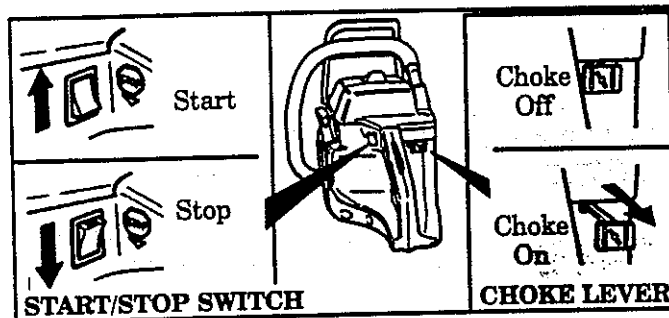

Figure 14
- b. Move Start/Stop switch to the "Start" position. Figure 14.
- c. Move choke lever to "ON" position. Figure 14.
**NOTE:** Stop the engine by moving the start/stop switch to the "Stop" position. Figure 14.
- f. Move choke lever to "OFF" position. Figure 14.
- 2.) Move the choke lever to the "On" position. Figure 14.
- 6.) Allow the engine to run for about 5 seconds. Then, move the choke lever to the "Off" position. Figure 14.
- 2.) Move the choke lever to the "On" position to set the throttle. Then, move the choke lever to the "Off" position. Figure 14.